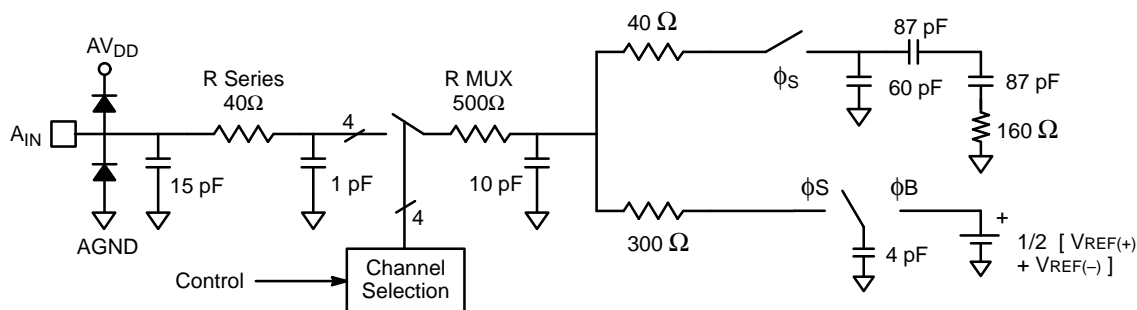

Figure 9. Analog Input Equivalent Circuit
- See V_{IN} input equivalent circuit (see Figure 9.).